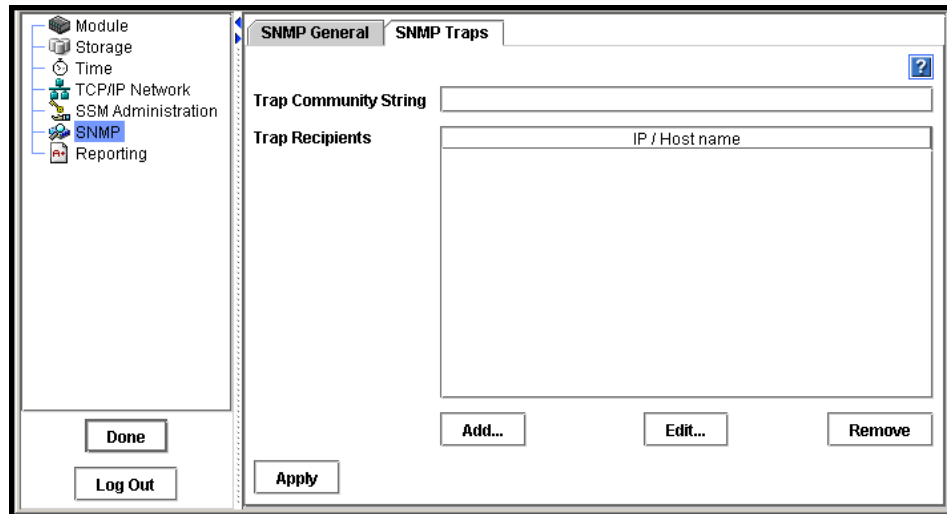

Figure 112. Enabling SNMP Traps
3. Select the SNMP Traps tab. The SNMP Traps window opens, shown in Figure 112.